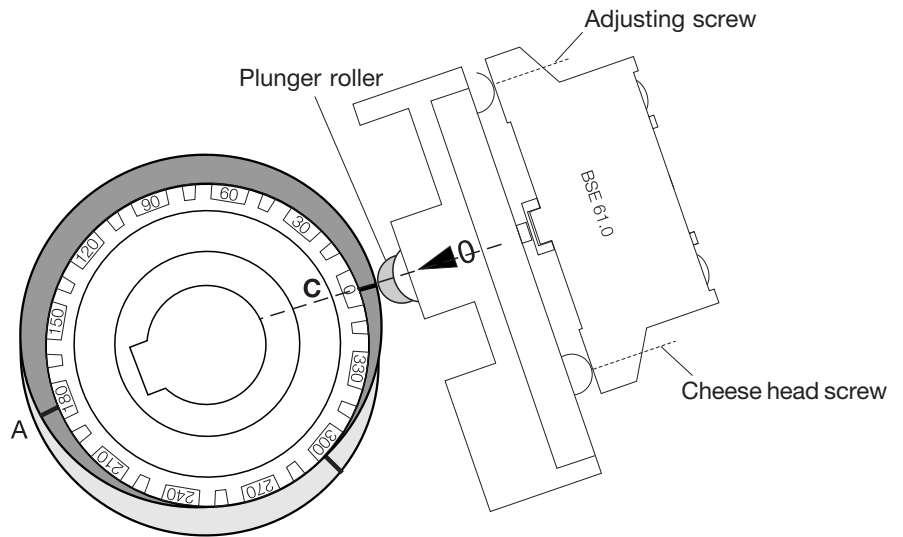

Fig. 13: Replacing and adjusting the switch element using the example of a BSE 61, switch-off point at notch C
1. Tighten the new switch element using the cheese-head screw (Fig. 13).